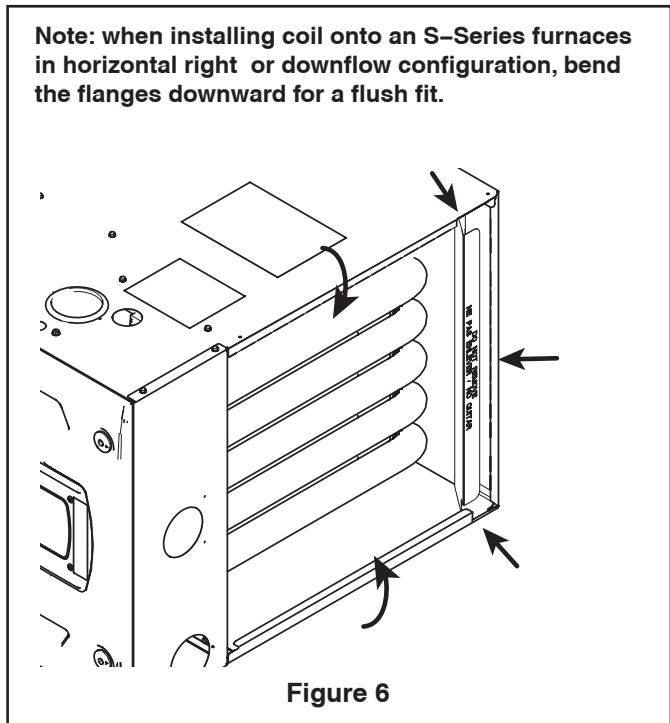

Figure 6
2. When the non-condensing Upflow/Horizontal furnace is placed on its right side for right airflow, the furnace top flange meets the cased coil top flange. The coil flange fits inside of the furnace flange. See Figure 6 and 8.